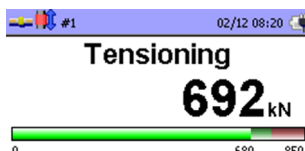

Fig. 50: Control unit display
⇒ The tensile force achieved is within the tolerance window and the control unit (BE) indicates Fig. 50.